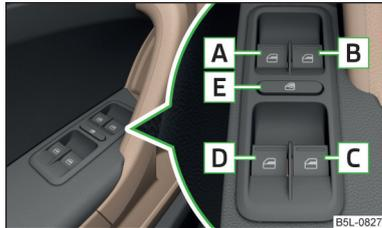

Fig. 40
- After switching the ignition off, it is still possible to open or close the windows for approx. 10 minutes. After the driver's or front passenger's door has been opened, the windows can only be operated by using button  » Fig. 40 on page 59.
Power window buttons » Fig. 40
➤ Press the button **E** » Fig. 40.
- Hold button  » Fig. 40 on page 59 in the opening position.
- Hold button  » Fig. 40 on page 59 in the closing position.